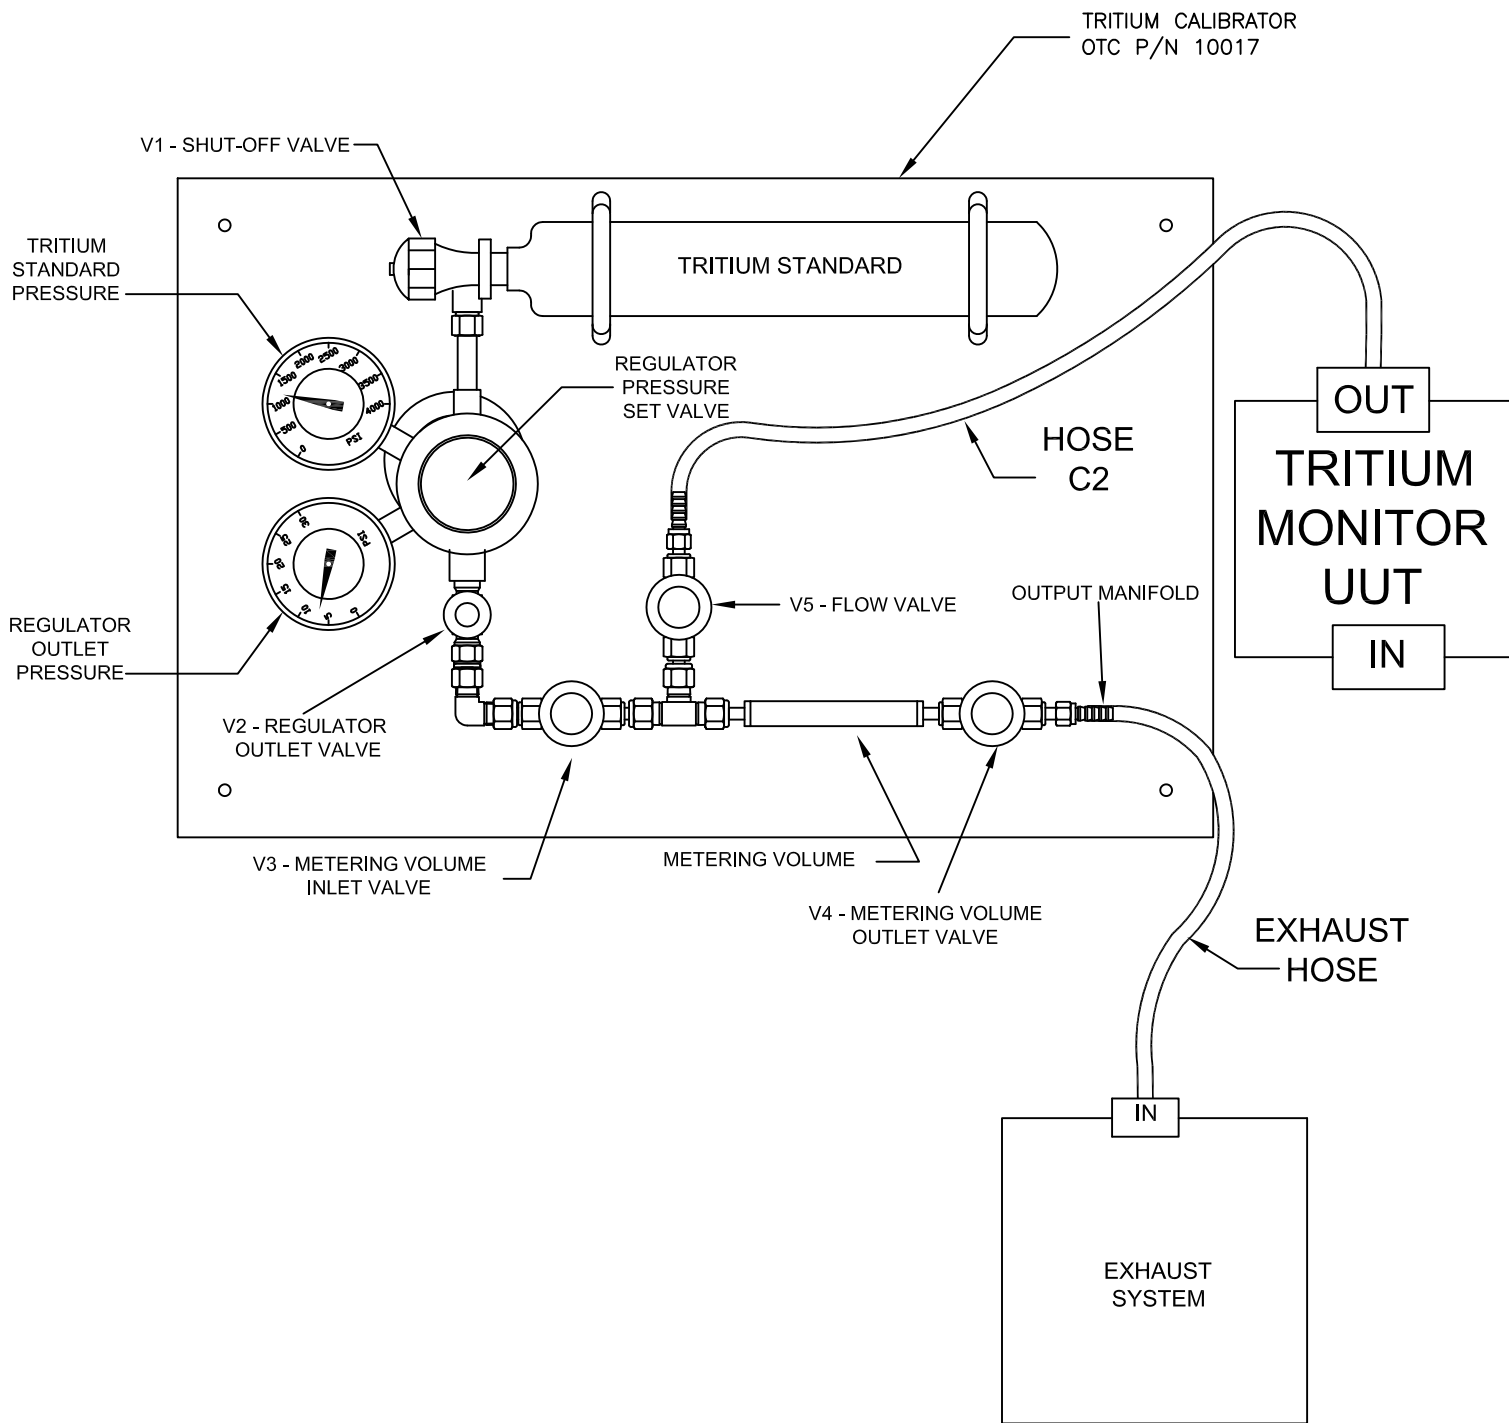

FIGURE 2
4.4. Ensure that the four valves listed below are closed finger tight. See Figure 2.
4.5. Remnant tritium gas from a previous use or from the purging process described above may need to be exhausted from the metering volume. Connect the hoses to the UUT and the exhaust hose as shown in Figure 2. Open metering volume Outlet valve (V4) and Flow valve (V5) by rotating counter clockwise. Operate the pump of the UUT for at least five minutes. This will clear out the remnant gas and provide the best conditions for accurate results. Close metering volume Outlet valve (V4) and Flow valve (V5) by rotating clockwise. Disconnect the exhaust hose.